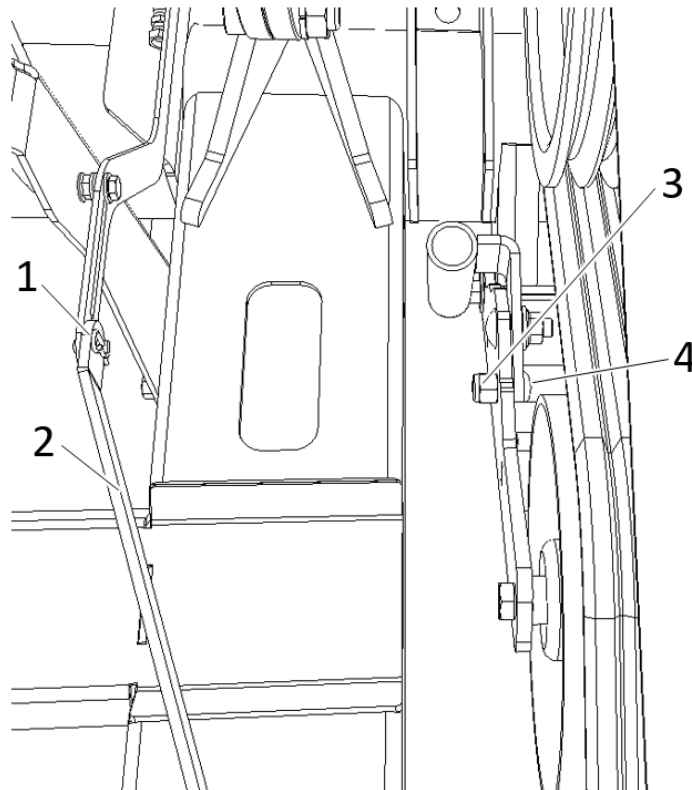

Figure 22 Cylinder lever arm and lock bolt
STEP 2 - FIGURE 22
Install the cylinder lock lever (item 2) and insert the locking pin (item 1). Install the tensioner locking bolt (items 3 and 4). (Reverse from Step 2 – Figure 22 Cylinder lever arm and lock bolt).